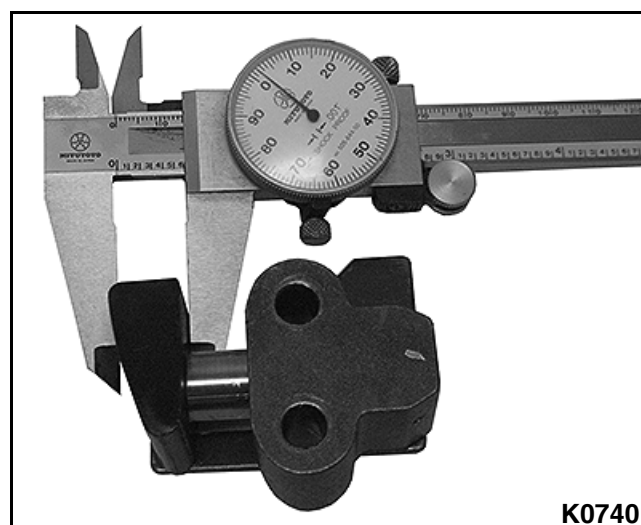

Figure 3-160
1. Using calipers, measure the tensioner thickness. **See Figure 3-160.**